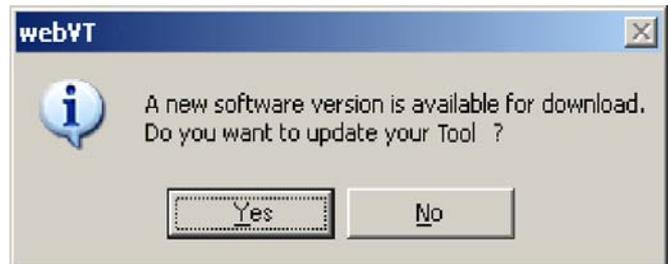

Fig. 9
- 5) Click “**Yes**” when the following window appears. See Fig. 9.